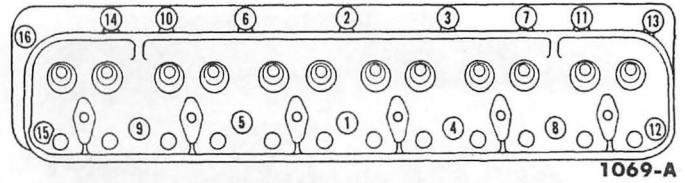

Fig. 19—Cylinder Head Bolt Tightening Sequence
3. The cylinder head bolt tightening procedure is performed in three progressive steps. Tighten the bolts to 55 foot-pounds torque in the proper sequence (Fig. 19), then tighten them to 65 foot-pounds torque in the